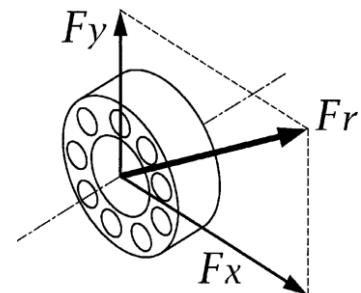

Figure 3.9: Free Body Diagram of Ball Bearing
1. Compute F_x and F_y by applying static equilibrium equations to the shaft supported by the bearing. See the figure 3.9.